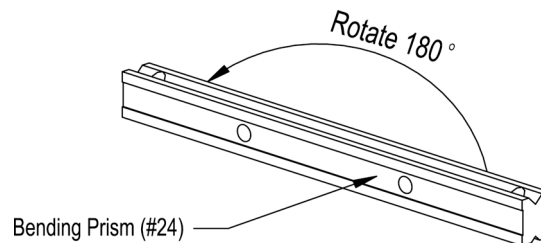

Figure 4 – Rotating the Bending Prism
Step 4: Rotate the bending prism 180° to use the optional radius as shown in Figure 4. Fit the bending prism back into the groove.